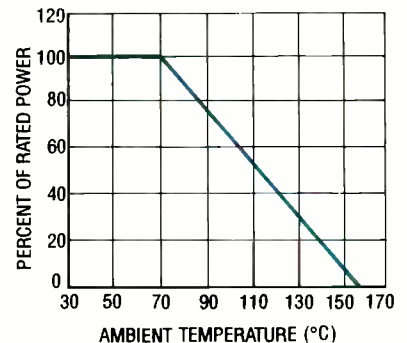

FIG. 2—A TYPICAL RESISTOR DERATING CURVE plots power against ambient temperature, the temperature of the environment in which the resistor is operating.
• *Power rating* is the maximum continuous power, in watts, that a resistor can dissipate at a temperature as high as 70°C. At temperatures beyond 70°C, the power rating is reduced or *derated*. A typical derating curve for a resistor is given in Fig. 2.